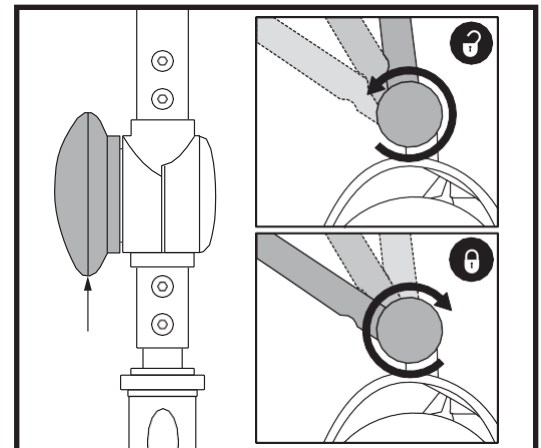

Figure 23. Tiller Adjustment Knob
## TILLER ANGLE ADJUSTMENT (See figure 23)
1. With the seat and battery pack removed (see Disassembly Procedures on previous page), lower the tiller and tighten the tiller adjustment knob. **See figure 23.**
3. Raise the tiller and fully tighten the tiller adjustment knob. **See figure 23.**